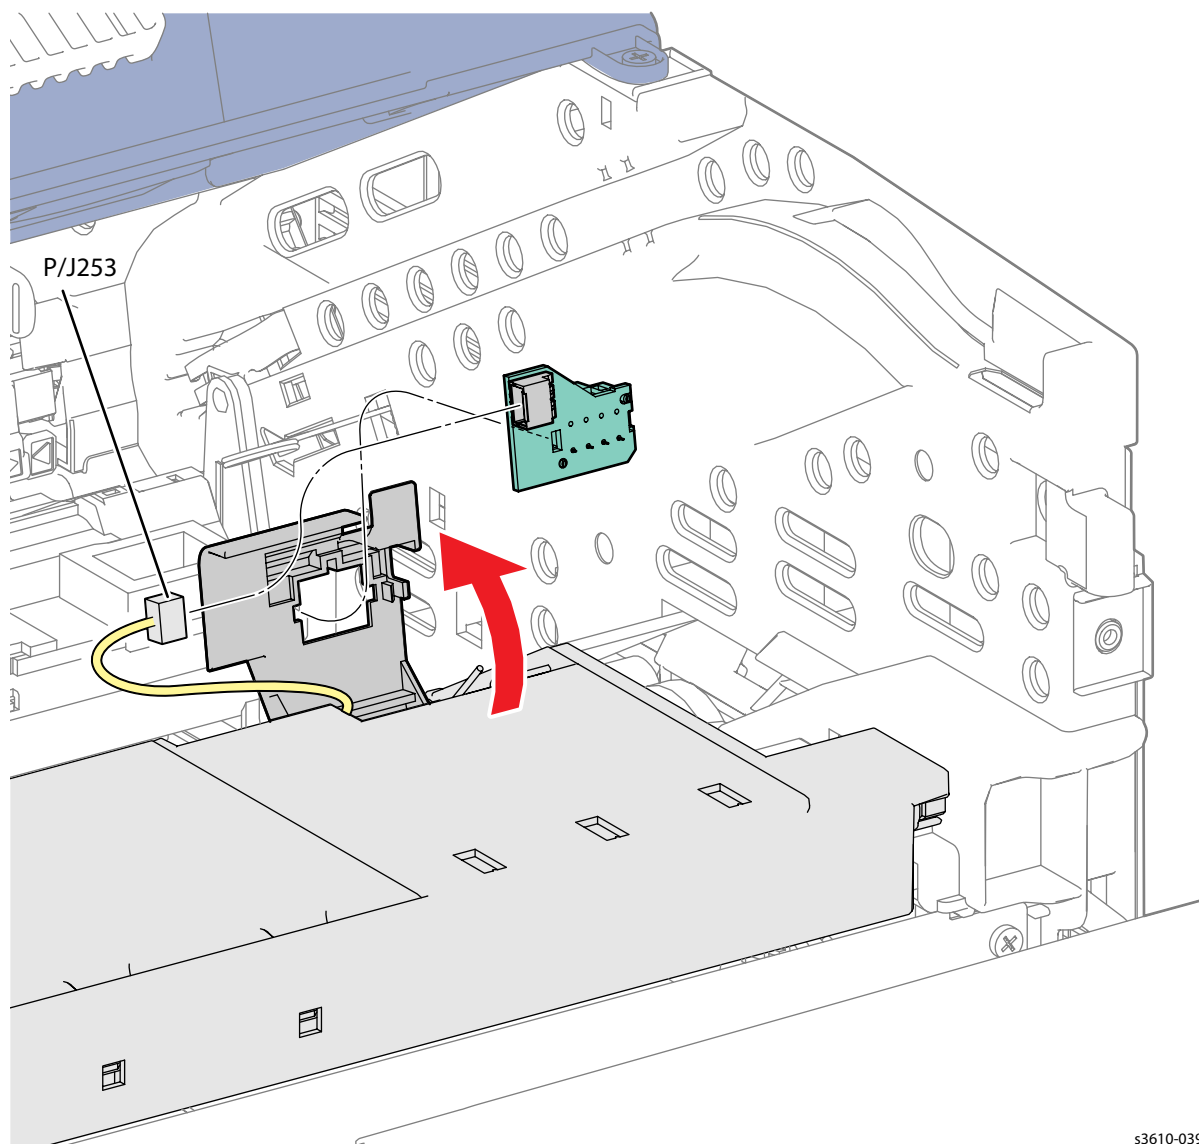

Figure 1
3. Access the CRUM. (Figure 1)